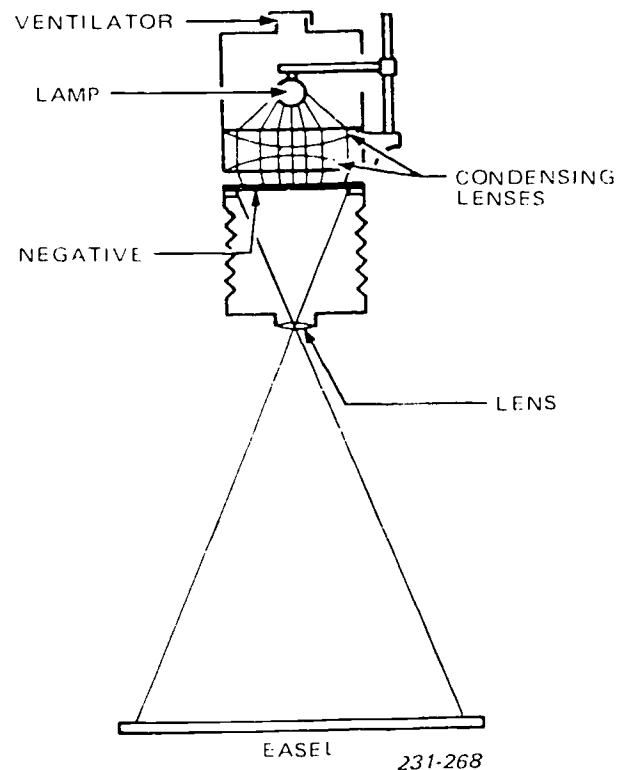

Figure 3-3. Condenser-type projection printer.
**Condenser-type projection printer.** The condenser-type projection printer, shown in figure 3-3, has a set of condensing lenses between printer light source and the negative. The condensing lenses concentrate or focus the light in such a manner that the rays pass straight through the negative to the projection lens. A projection printer with this type of light source reproduces the maximum amount of detail in the print. For this reason, negative defects such as surface scratches very often become apparent on the print. The condenser-type projection printer projects an image that is more contrasty than that projected by a diffusion-type printer.